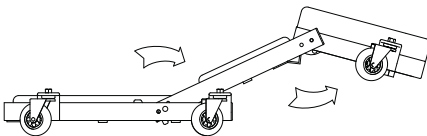

Figure 3 - Creeper configuration
3. Adjust hinged caster brackets so wheels will contact ground properly. Unlock spring loaded lock pins, then reverse steps 1 and 2, as shown in Fig. 3, to convert creeper seat into creeper.